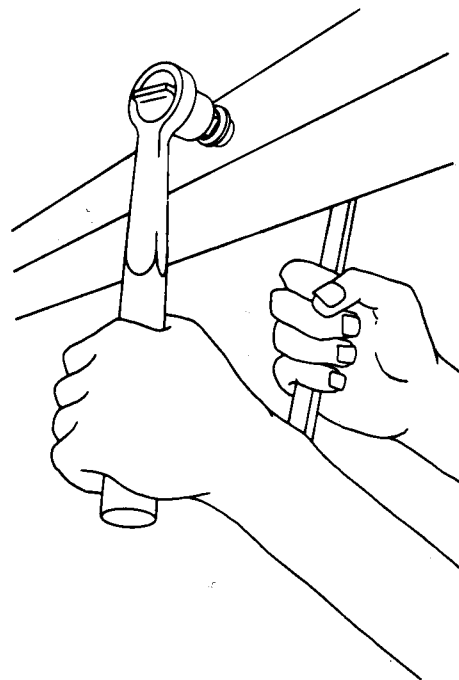

Fig. 22
1. Press the eight, newly fabricated front spring hanger mount bushings into the frame. This can be done by placing two bushings at a time on a $\frac{1}{2}$ -inch bolt, 5 or 6 inches long (Fig. 22). Simply tighten the nut and bolt assembly and draw the bushings into the frame. Remove the bolt and insert the remaining bushings in the same manner.